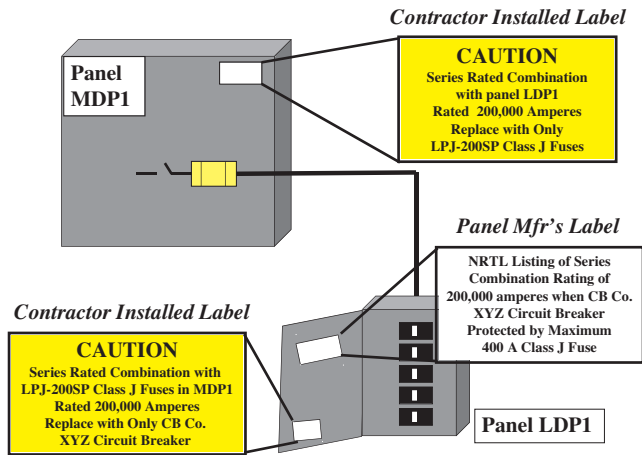

Figure 4
As just discussed, 240.86(A) requires that, when a series rated combination is used, the switchboard, panelboard or other equipment be tested, listed and **factory marked** for use with the series rated combinations to be utilized. See Figure 4 for the 110.22 & 240.86(A) labeling requirements illustration.
This section places responsibility on the **installer** (electrical contractor) to **affix labels** on the equipment enclosures, which note the series combination interrupting rating, and calls out the specific replacement overcurrent protective devices to be utilized. If the upstream overcurrent protective device protecting the downstream circuit breaker is in a different enclosure, then **both** enclosures need to have field-installed labels affixed. See Figure 4 for the 110.22 & 240.86(A) labeling requirements illustration.